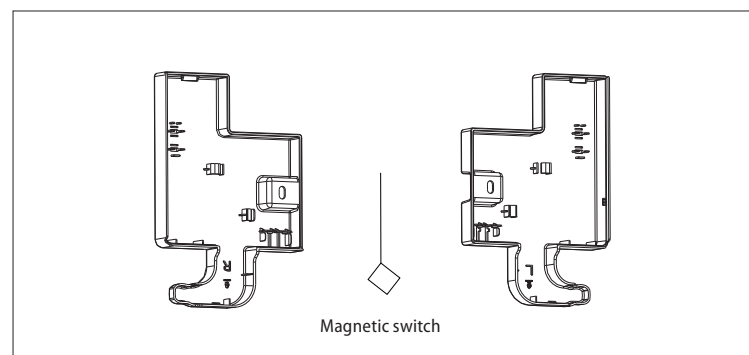

Fig. 7
15. In the package with accessories you will find the plastic cover of the refrigerator hinge, which is mounted on the opposite side of the upper plastic cover according to Fig. 7. Also install the magnetic switch on the other side.